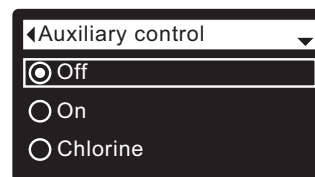

FIG. 142
7. Press the SELECT (O) button to display the Auxiliary control menu (See Figure 142).
8. If the desired option already has a dot next to it (See Figure 142), go to Step 9. Otherwise, press the DOWN (▼) or UP (▲) buttons to scroll to the desired option, then press SELECT (O) to choose it.